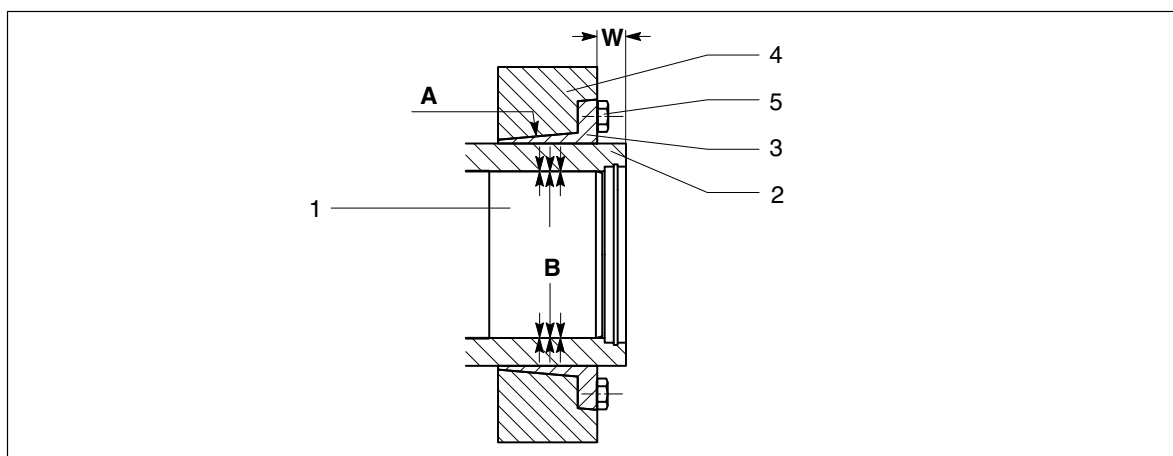

Fig. 51: Fitting the shrink disk
- The conical surfaces of the inner and outer rings (3 and 4, see Fig. 51) must be free of grease and oil.
- A thin layer of grease must be applied evenly to the conical surfaces of the inner and outer rings (3 and 4, see Fig. 51).
- Provide the tensioning bolts (5, see Fig. 51) on the contact surface and on the thread with lubricant.